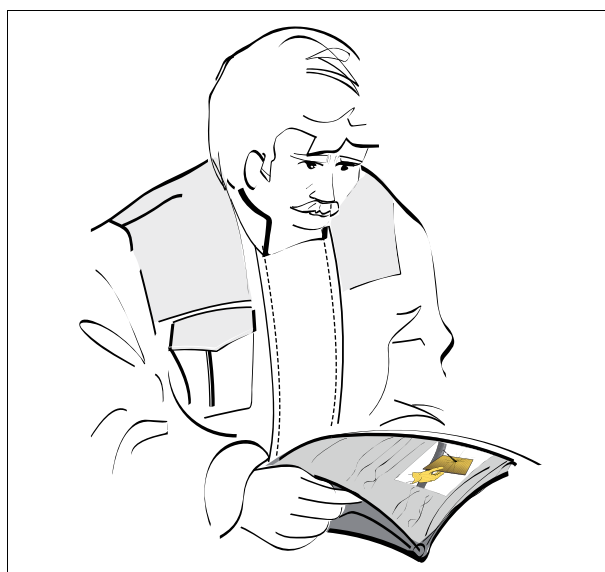

Fig. 1.
- to have read and understood this entire book — always consult the dealer as soon as there is any doubt or lack of understanding *fig. 1*